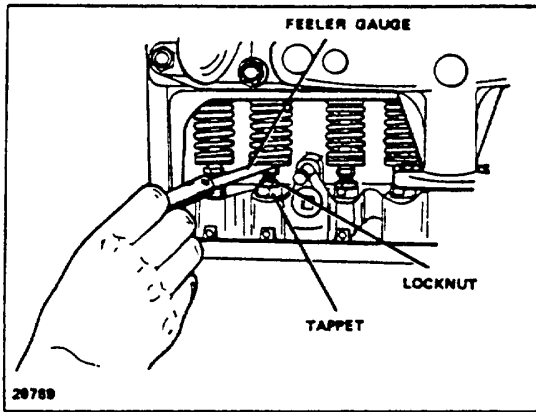

Figure 4. Checking Valve Tappet Clearance
5. Use two thin wrenches when adjusting valve clearance. Use the lower wrench to hold the tappet and the upper wrench to raise or lower the tappet adjusting screw. When the valve lash is properly adjusted, the appropriate feeler gauge should pass between the tappet and its corresponding valve stem with a slight drag (Figures 4 and 5).